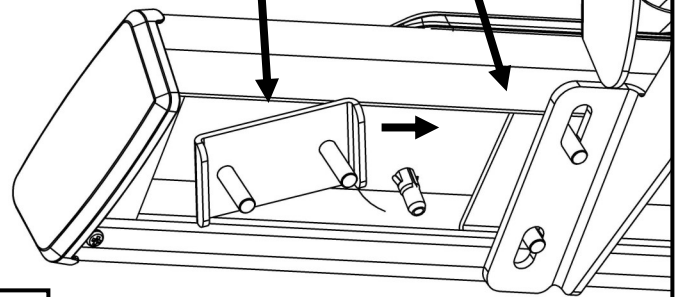

Figure 4
6. **For Part Numbers 28-51170 / 28-51180:** Locate (1) driver side step board (Item 1) and (2) adapter plates (Item 5). Insert the adapter plates onto the step board and align with the previously installed mount brackets. Repeat for passenger side. (**Figure 4**)